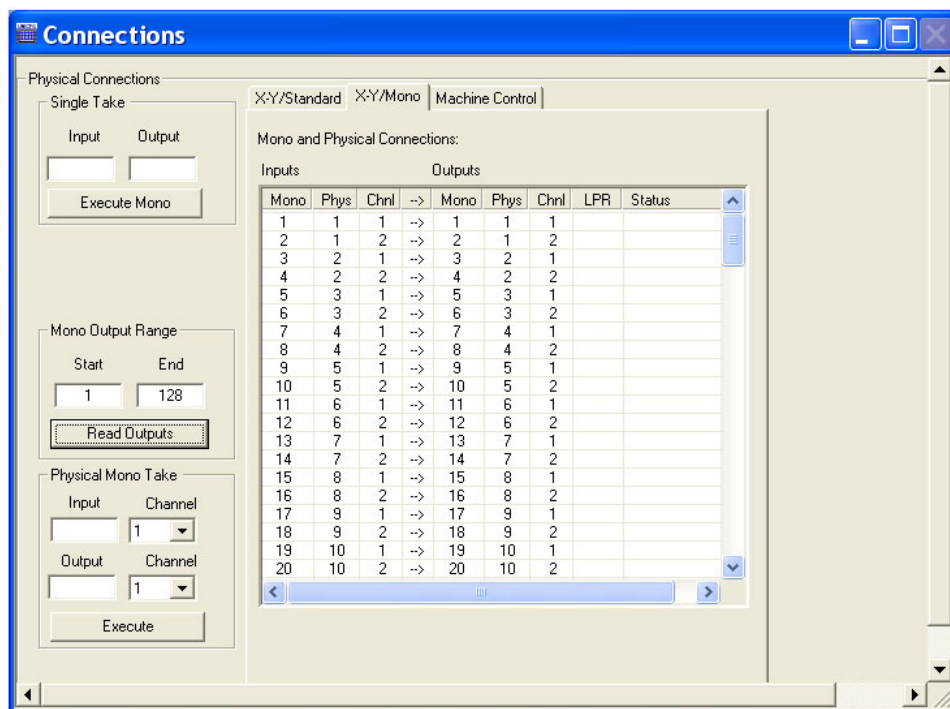

Figure 10-7. Example of Connections Window with Mono Tab in Front
- 6 Click Read Outputs. The corresponding inputs and outputs display on the tab, as shown in Figure 10-7 on page 94. The current router switching configuration displays.